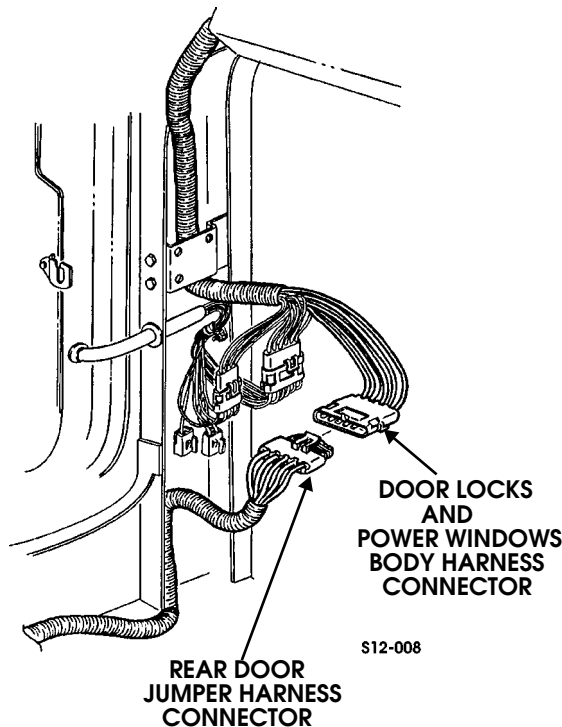

Figure 12-131: Power Windows and Door Locks Body Harness and Rear Door Jumper Harness
2. Disconnect jumper harness connector from power windows and door locks body harness connector (Figure 12-131).
2. Connect jumper harness connector to power windows and door locks body harness connector (Figure 12-131).